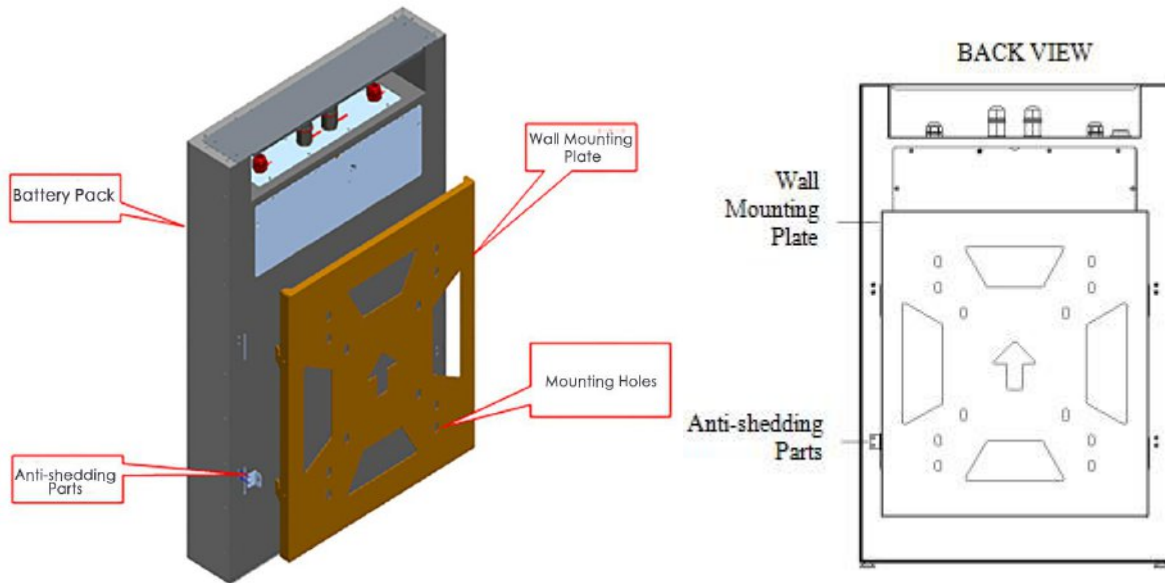

Figure 3-6
c. Install the wall mounting plate on the wall as shown in Figure 3-6 below; fix it with M8*50 tapping screws.